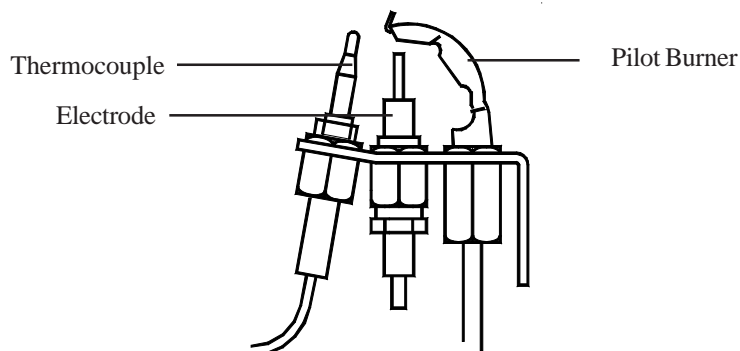

Fig. 3
6.3.7 Ensure that the pilot flame envelops thermocouple tip (refer Fig. 3).